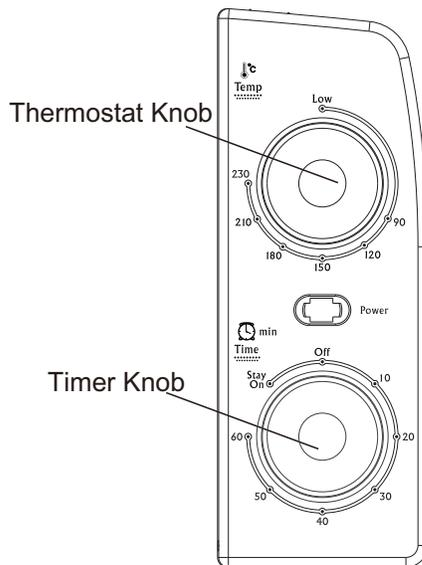

fig.11.
1、 Turn the Temperature Knob to 200°C. See fig.11.
If you need to cook food longer than 60 minutes, set the Timer to the Stay On setting. See fig.11.